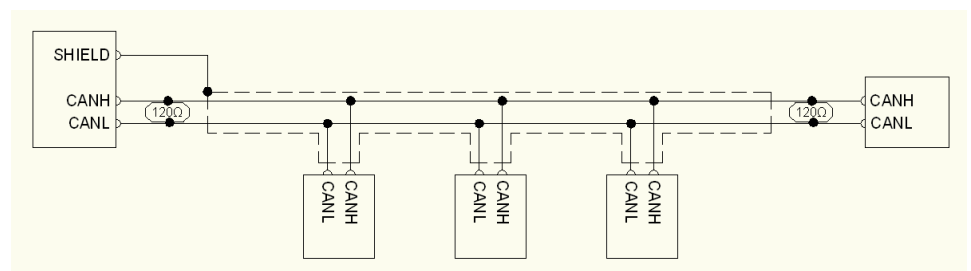

Fig. 3: Example of correctly configured CAN bus
- Verify the resistance across CANH and CANL is equal to 60 ohms with a multimeter when the system is powered off. If 60 ohms is not found check the CAN termination and refer to the wiring diagram in Fig. 3.
The LT2 Sport does not include CAN termination on board. Proper CAN termination must be included in the wiring harness at each end of the bus. A daisy chain style bus must be constructed with stub lengths for added devices kept to less than 1 foot (0.3 meters). Figure 3 shows a correctly constructed CAN bus with termination. Shielding is not required and the LT2 Sport does not offer a shield pin. However, if another module on the CAN bus offers a shield pin it is recommended to use it.